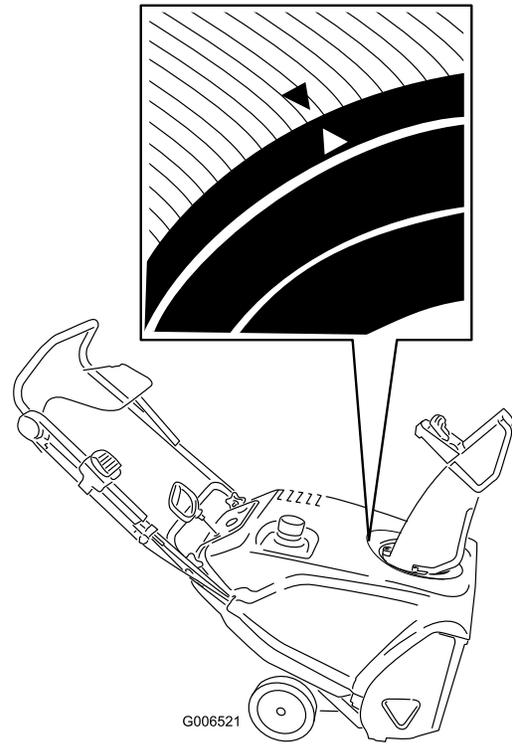

**Figure 41**
2. Position the Quick Shoot control between the two arrows located on the right hand side of the upper handle (Figure 41).